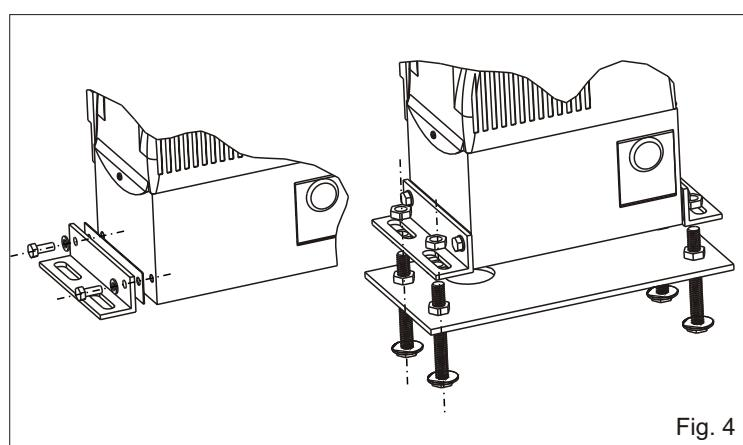
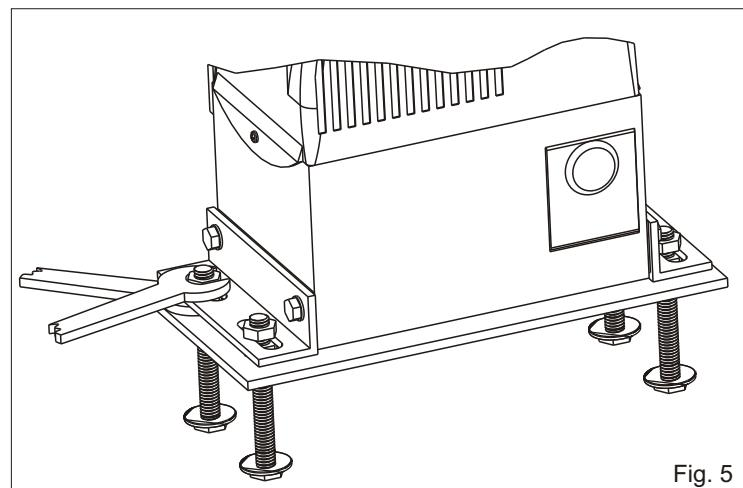

Fig. 4
Fig. 5
- 4.1.** Fix the side fixing angulars to the motor-reducer with the provided screws (Fig. 4)
- 4.2.** Fix the motor-reducer to the foundation plate adjusting the side position and its height (Fig. 4 - Fig. 5) considering the mentioned measurements in Fig. 2.